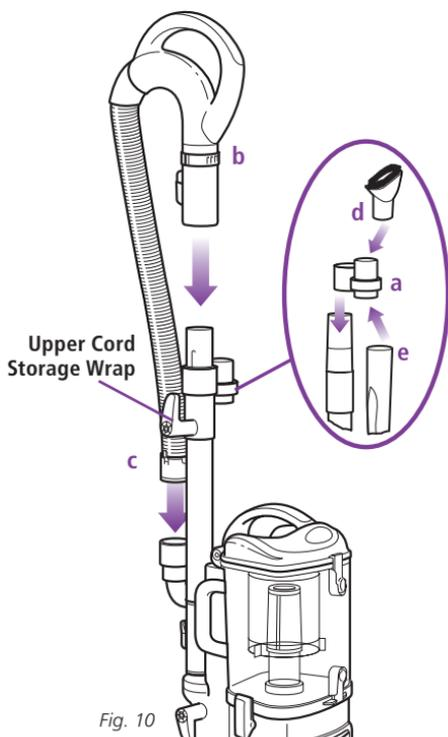

Fig. 10
- 4 Slide the accessory holder (a) positioned opposite the upper cord wrap, over the extension wand. Align the tab with the groove and push down. (Fig. 10)
- 5 Push the handle (b) onto the top of the extension wand until you hear it click into place. (Fig. 10)
- 6 Insert the end of the stretch hose (c) into the connector on the back of the *Lift-Away™* canister. (Fig. 10)
- 7 Store the dusting brush (d) and the crevice tool (e) on the mounts of the accessory holder. (Fig. 10)